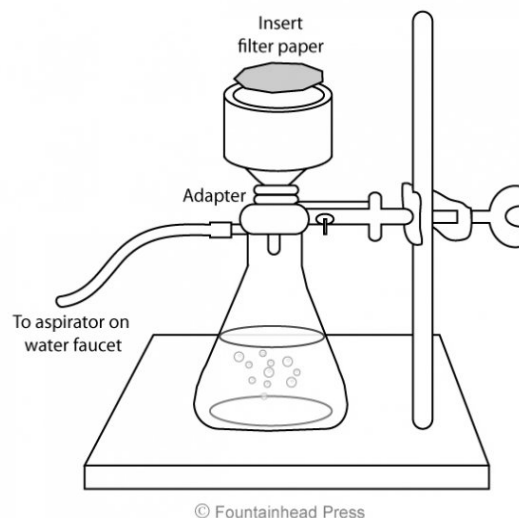

Figure 2. Vacuum filtration apparatus with Buchner funnel.
11. Use a vacuum filtration system, illustrated in Figure 2, to collect the alum crystals. Decant the supernatant from the beaker using a glass rod, in a similar fashion as in Step 6. Using a rubber policeman, transfer as much of the alum product to the vacuum filter as possible.